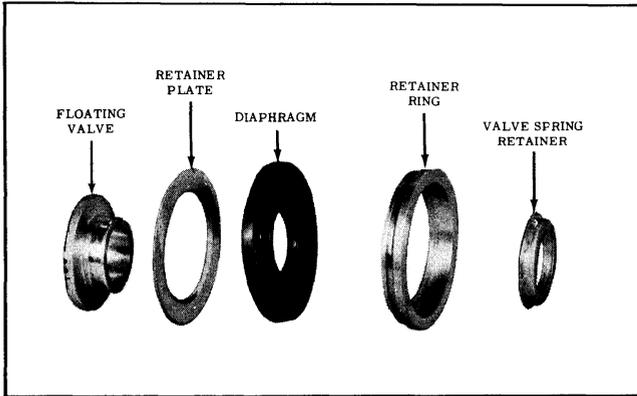

Fig. 7-26 Floating Valve
- a. Fit the lip of the rubber diaphragm over the small diameter of the diaphragm retainer ring. (See Fig. 7-26)